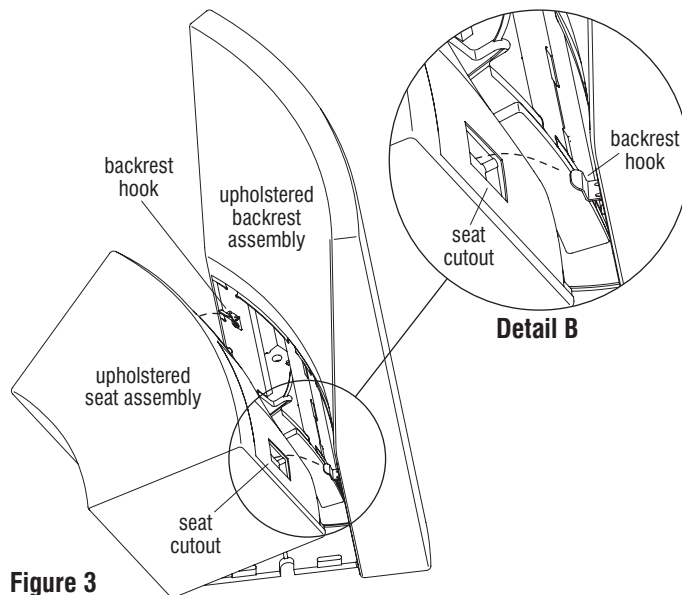

Figure 3
3. Lower the back end of the seat assembly so the two backrest hooks on the upholstered backrest assembly engage the cutouts on the back side of the seat assembly (Figure 3). For complex shaped layouts that have a lounge seat shape that is unable to easily rotate into place, lower the seat vertically between other lounge units and engage the front seat assembly hook and rear backrest hooks.